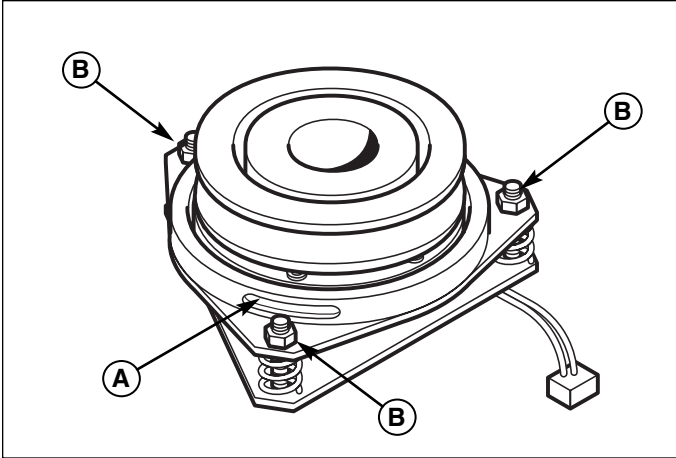

Figure 18. PTO Clutch Adjustment
- See Figure 18. Note the position of the 3 adjustment windows (A) in the side of the brake plate and the nylock adjustment nuts (B).
- Alternately tighten the adjustment nuts (B, Figure 18) until the rotor face and armature face just contacts the gauge.